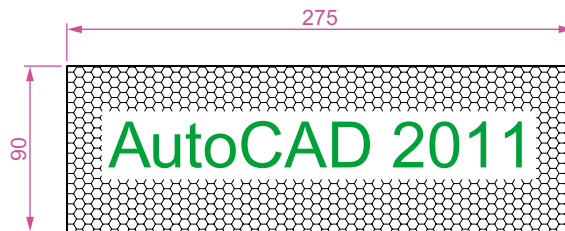

Fig. 8.18 Sixth example – text in hatching
### Sixth example – text in hatching (Fig. 8.18)
1. Construct a pline rectangle using the sizes given in Fig. 8.18.
The result is shown in Fig. 8.18.